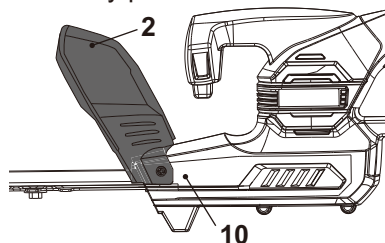

Fig. 1
The front safeguard (2) is already pre-installed on the housing (10) (Fig. 1).